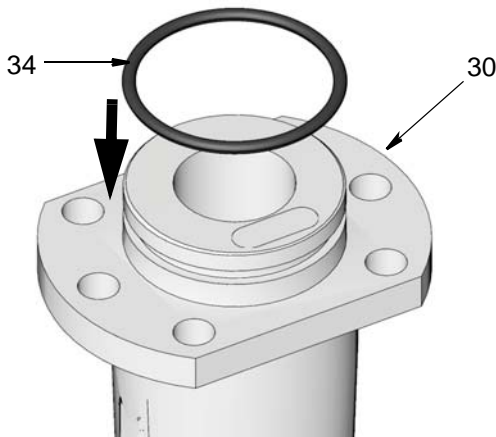

FIG. 48
- b. Apply a thin layer of grease to the new o-ring (34) and install new o-ring over outlet (30) as shown in FIG. 48.